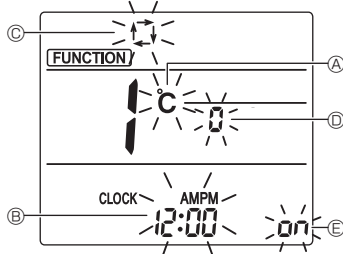

Fig. 4-11
3. Check that function No. "1" is displayed, and then press the **SET** button ③.
- The Screen display setting screen will be displayed. (Fig. 4-11)
4.12.2. Changing the temperature unit (Fig. 4-11 Ⓐ)
- Press the **TEMP** button ⑤.
- Each time the **TEMP** button ⑤ is pressed, the setting switches between **°C** and **°F**.
4.12.3. Changing the time display (Fig. 4-11 Ⓑ)
- Press the **TIME** button ⑥.
- Each time the **TIME** button ⑥ is pressed, the setting switches between **12:00^{AM/PM}** and **24:00^{AM/PM}**.
4.12.4. Changing the AUTO mode (Fig. 4-11 Ⓒ)
- Press the **MODE** button ⑦.
- Each time the **MODE** button ⑦ is pressed, the setting switches between **Ⓐ** and **Ⓑ**.
4.12.5. Changing the pair No. (Fig. 4-11 Ⓓ)
- Press the **UP** button ④.
- Each time the **UP** button ④ is pressed, the pair No. 0-3 changes.